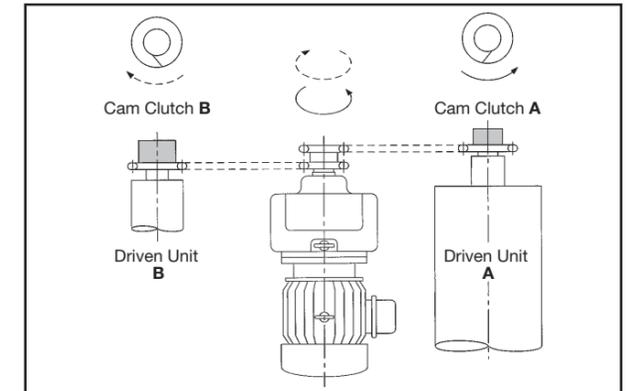

**Figure 32:** Pipe Flusher – Medium Overrunning Application
**Figure 32** depicts an application in which the hose drum of a pipe flusher is being driven. When the hydraulic motor is rotated in reverse in the counter-clockwise direction, the Cam Clutch inner race rotates in reverse, and the Cam Clutch overruns. The flushing pump is driven in this state. The flushing water passes through the hose and gushes out of the nozzle toward the back. The force of this water jet starts the nozzle running and pulls and unwinds the hose. At the same time, the hose drum starts reverse rotation in the same counter-clockwise direction, and increases its speed of rotation until it reaches the overrunning speed of the inner race. At this point, the Cam Clutch engages, and the hydraulic motor works as a brake to stop the acceleration of the drum. Therefore, the running speed of the water jet nozzle is kept constant. When the hydraulic motor is rotated normally in the clockwise direction, the Cam Clutch engages to wind the unwound hose onto the drum.